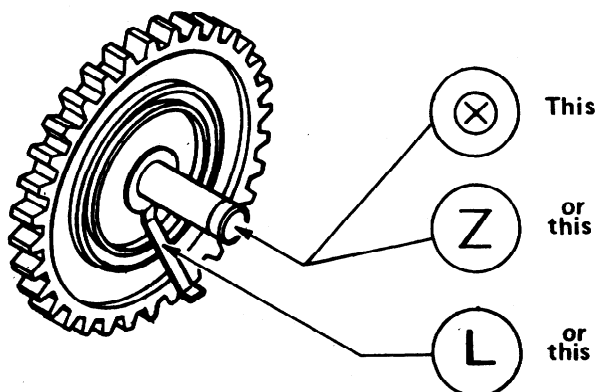

Figure 2. Location of Identification Mark(s)
5. Reassemble the distributor block with new serviceable gears. Serviceable gears are identified by the presence of the letter "z" or the letters "x" and "o" together, laser etched on the retaining ring end of the gear axle, or the letter "L" stamped on the electrode (see figure 2).